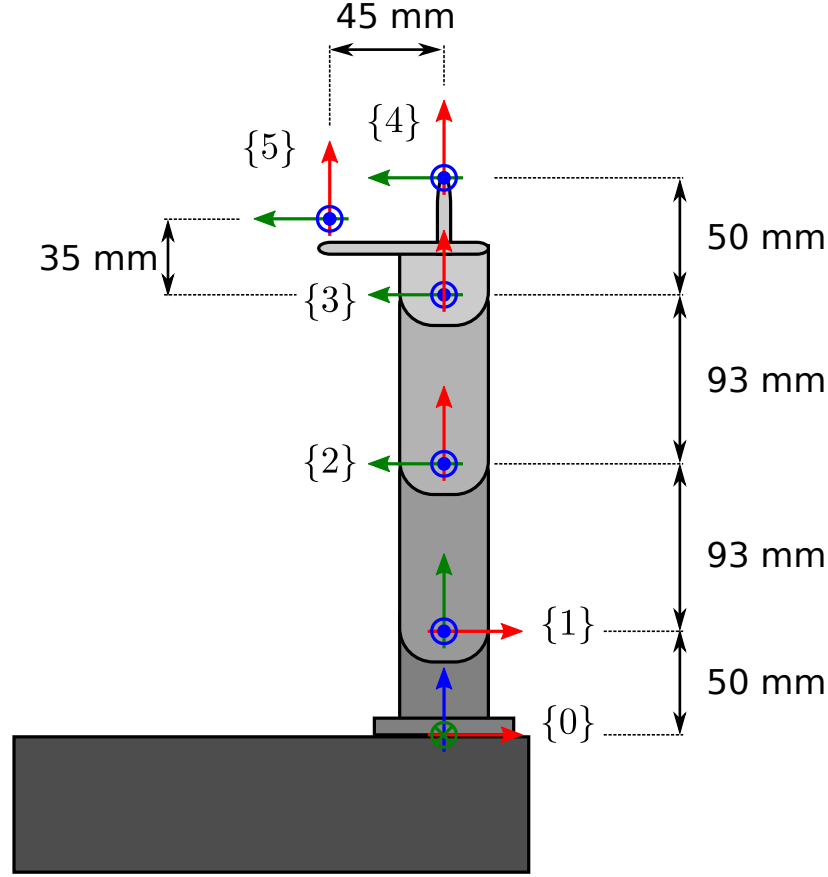

Figure 1: Robot model in its default configuration and fundamental dimensions.
•**Problem 1:** Find, by the use of Figure 1, the direct kinematic transformations, T_4^0 for the robot stylus, and T_5^0 for the robot camera, as function of all joint angles.